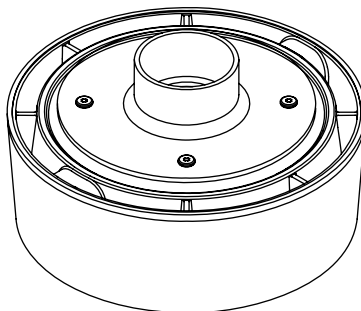

FIG.12
2. After finishing assembly, it will be shown as below. (FIG.12)